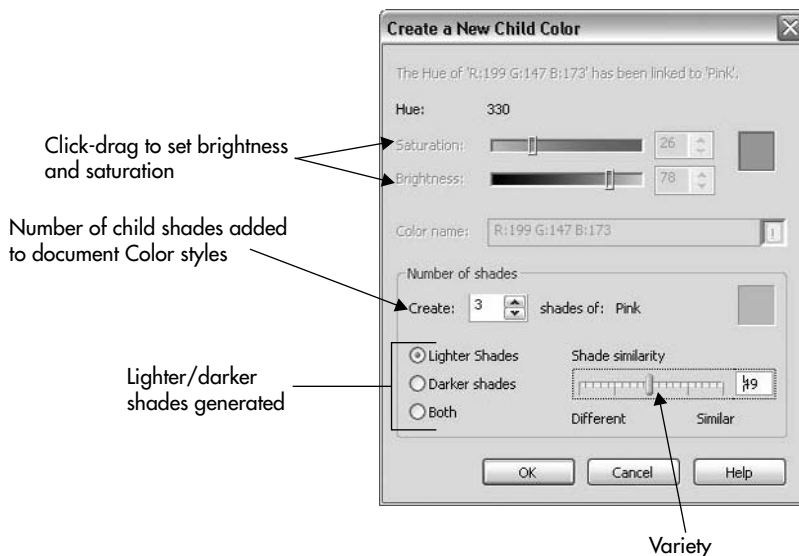

FIGURE 19-6
3. With your style selected in the list, click the New Child Color(s) button in the docker to open the Create A New Child Color dialog, shown in Figure 19-6.